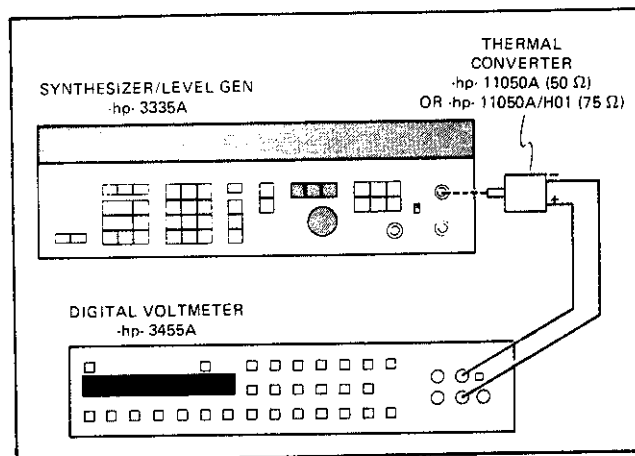
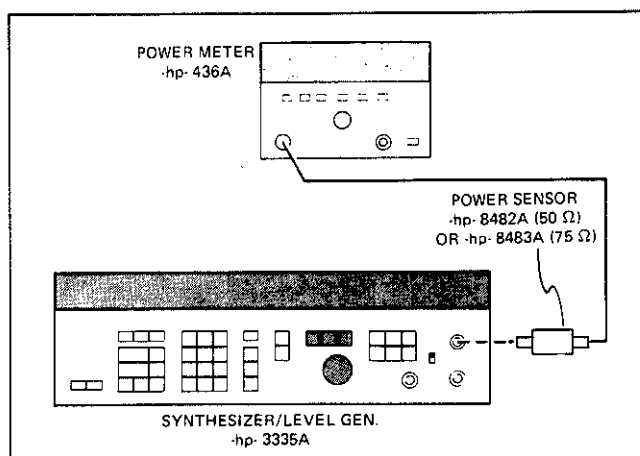

Figure 4-5. Flatness Test (200 Hz to 10 MHz).
Figure 4-6. Flatness Test (10 MHz to 80 MHz).
- a. Connect the test set-up as shown in Figure 4-5.
k. Disconnect the test set-up of Figure 4-5 and connect the test set-up shown in Figure 4-6.